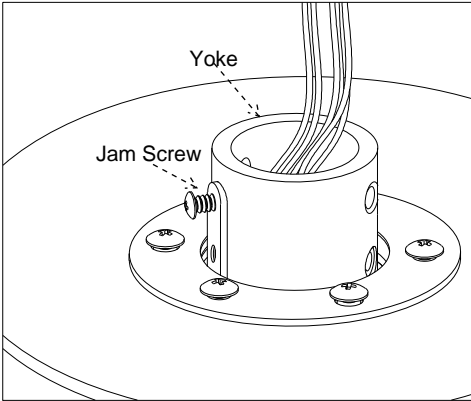

Fig. 2
Step 1. As shown in Fig. 2, loosen jam screw in yoke until it is flush with the inside surface.